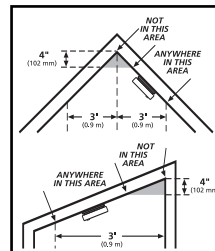

FIGURE 2
- Install Smoke Alarms on sloped, peaked or cathedral ceilings at or within 3ft (0.9m) of the highest point (measured horizontally). NFPA 72 states: "Smoke alarms in rooms with ceiling slopes greater than 1 ft in 8 ft (.3m in 2.4 m) horizontally shall be located on the high side of the room." NFPA 72 states: "A row of detectors shall be spaced and located within 3 ft (0.9m) of the peak of the ceiling measured horizontally" (see figure 2).